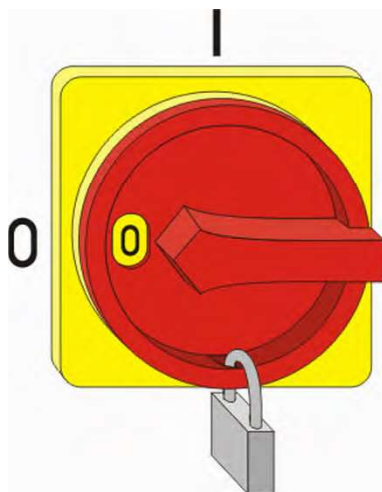

Fig. 4: Secure main switch
2. Secure the main switch with a lock (Fig. 4).